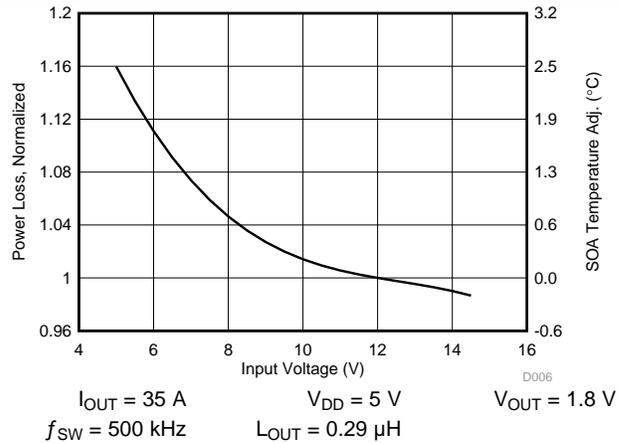

Figure 9. Normalized Power Loss vs Input Voltage
- Normalized power loss for input voltage \approx 0.99 (Figure 9)
- SOA adjustment for input voltage \approx -0.12°C (Figure 9)